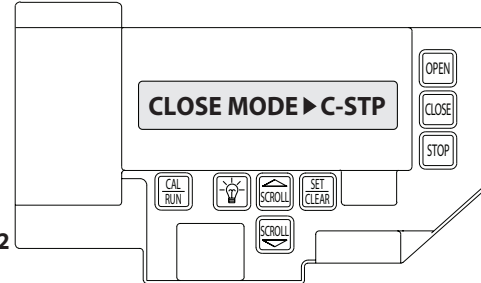

Figure 12
- 2) Press SCROLL  key until display reads "CLOSE MODE>MOM," "CLOSE MODE>C-STP" or "CLOSE MODE>C-REV." **Figure 12.**